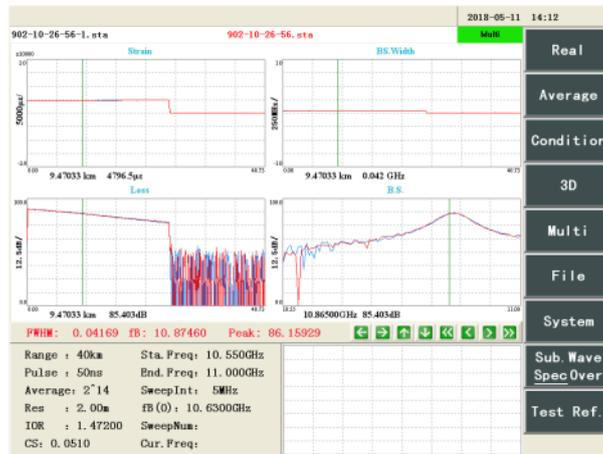

Figure 8-26 Main interface of multiwindow file reference
Step 1: Open the reference file through the method in Section 4.3 of this chapter and enter the multiwindow reference file interface, as shown in Figure 8-26.